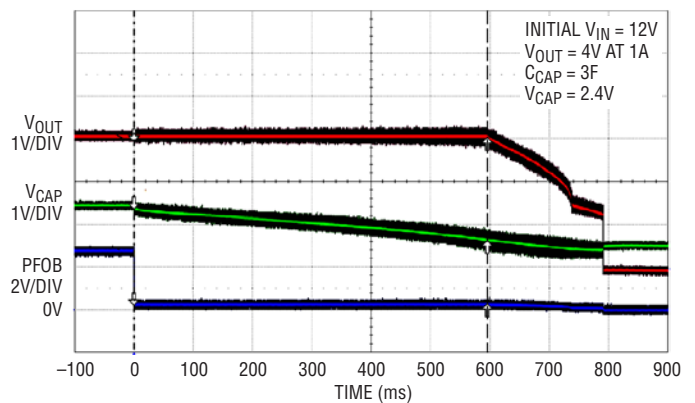

Figure 2. Backup Operation
Demonstration circuit 2040A is a 12V to 4V/1A regulator with an integrated supercap charger and backup boost regulator featuring the LTC®3355EUF. The LTC3355 charges up a 3F supercapacitor from the output when the 12V input is available. When the 12V input fails, the backup boost regulator supplies the output until the energy in the supercapacitor is depleted. Figure 2 illustrates how long
7. Turn off PS1 and observe how long the output is maintained with 4W of power. Compare the results to Figure 2.